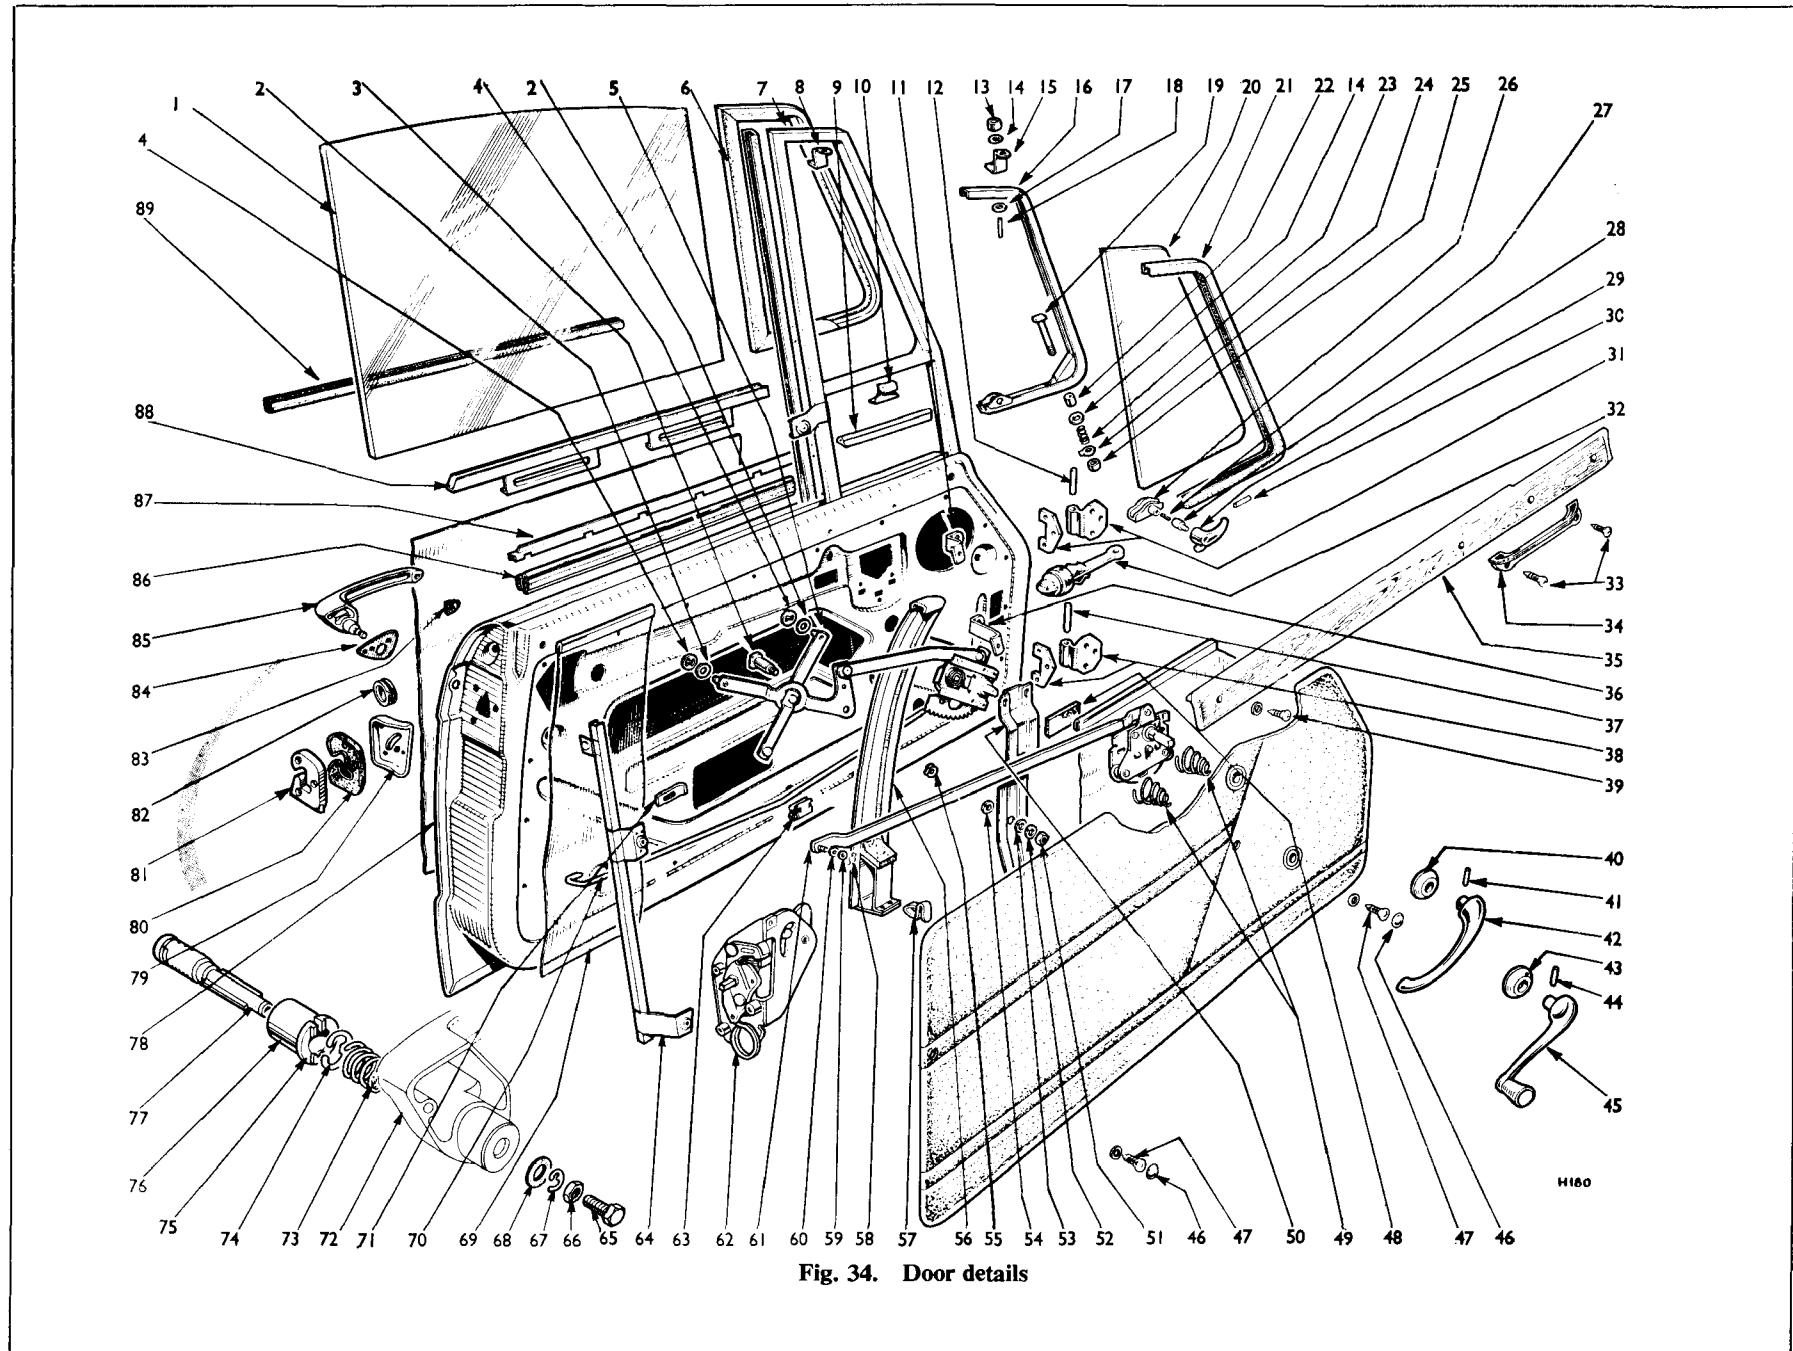

Fig. 34. Door details
Key to Fig. 34
3. Remove the spring clip (58) waved washer, (59) and release the link arm from the lock assembly.
4. Take out three screws (97) and remove the remote control assembly (61) from the door panel.
C. Glass-run Channel: To Remove (Figs. 34 and 37)
3. Remove the rubber grommet (82) and take out the exposed hexagon headed bolt and washer.
4. Remove two hexagon headed bolts (102) and washers. Pull the lower end of the channel (64) forward of the tension wire (70).